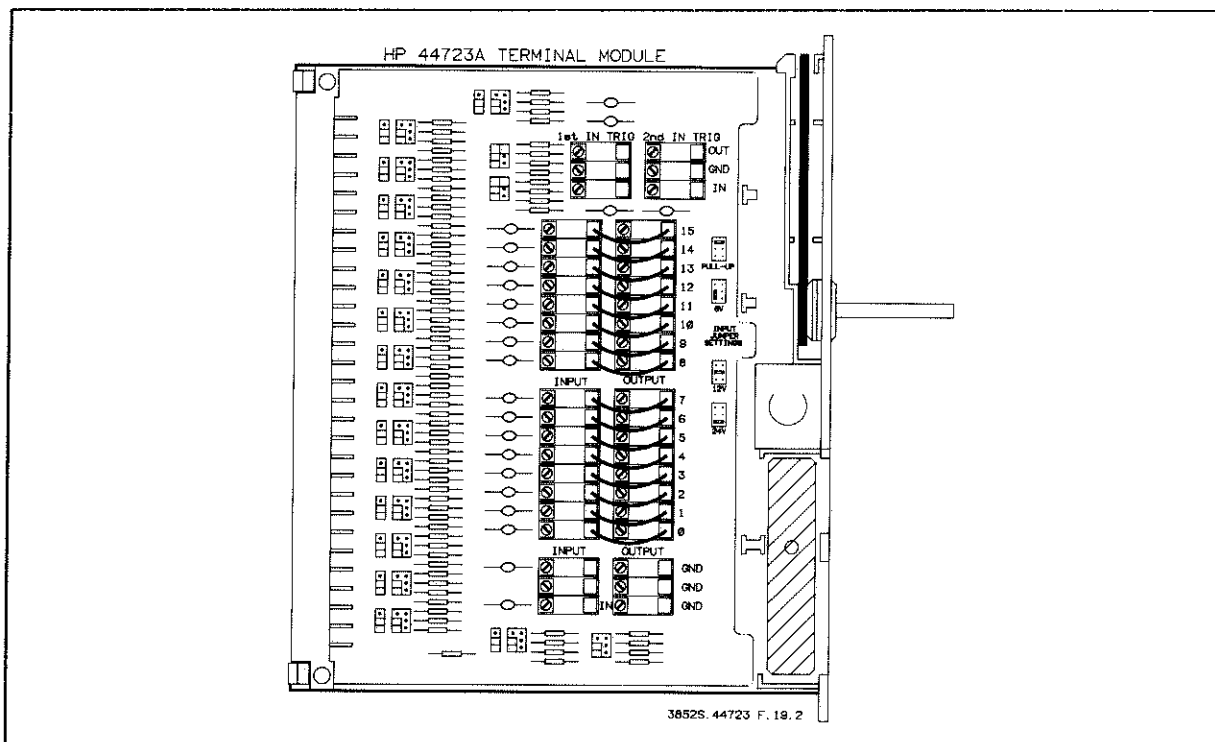

Figure 19-2 HP 44723A Test Fixture
A test fixture is required to run the Performance Tests. The test fixture can be manufactured using an HP 44723AT terminal module. The test fixture is shown in Figure 19-2.
On the test fixture, the output of each channel is connected to the corresponding input of the channel. All Input Jumpers are set to the 5 V position. The test fixture configuration is shown in Figure 19-2.
2. Make sure the output of each output channel is connected to its corresponding input channel, as shown in Figure 19-2. Make sure that all output and input jumpers are selected for +5 V TTL, as shown in the figure. It is important that the jumpers are in the correct positions, or the test will fail.